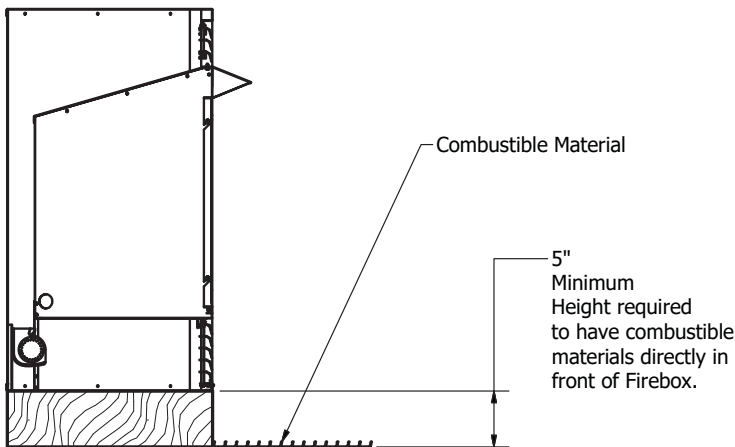

Figure 7 - Minimum Clearance Above Combustible Flooring.
5. **Floor clearance:** This inner chamber firebox floor must be installed at least 5" above any combustible flooring material, such as carpeting or asphalt tile, which is closer than 14" to the base of the firebox. Figure 7